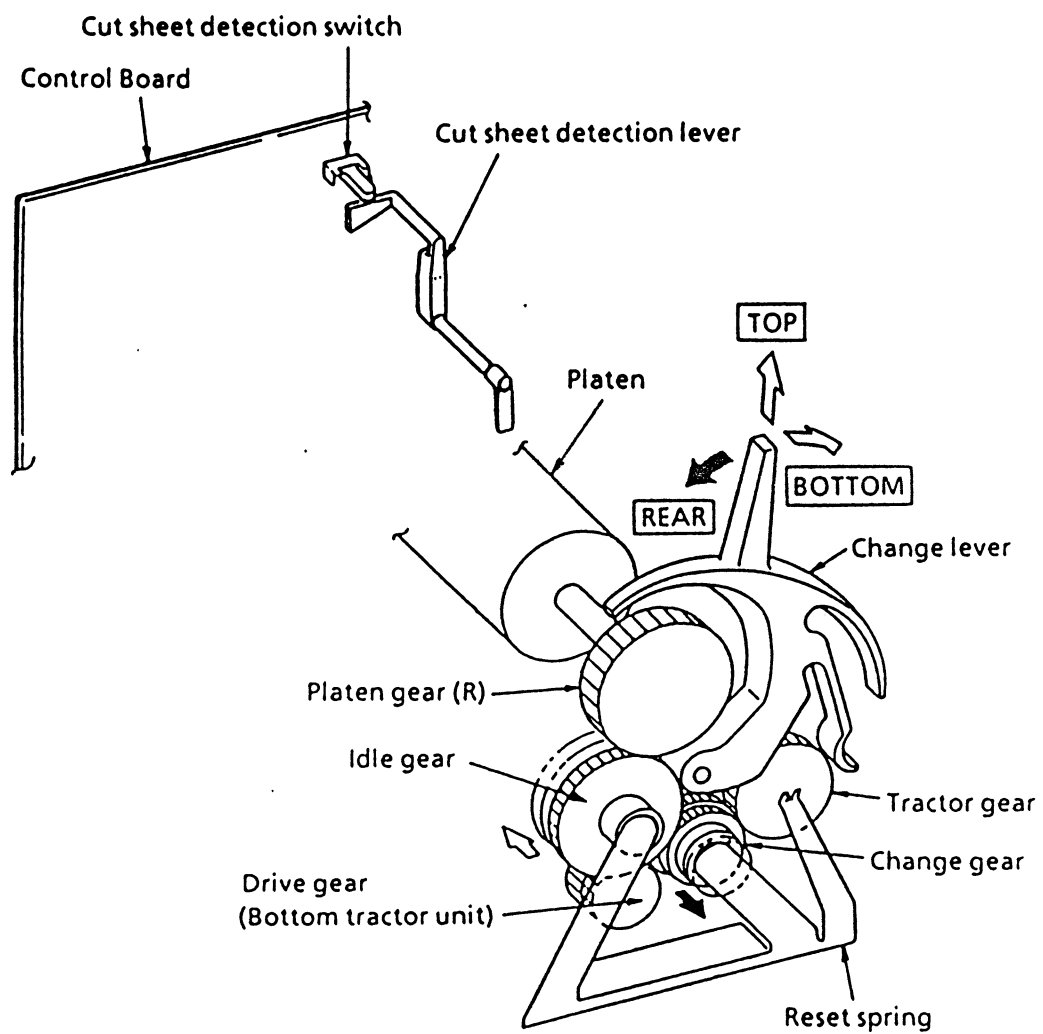

Figure 3-8
(1) **Cut sheet and continuous sheet switching mechanism (See Figure 3-8)**